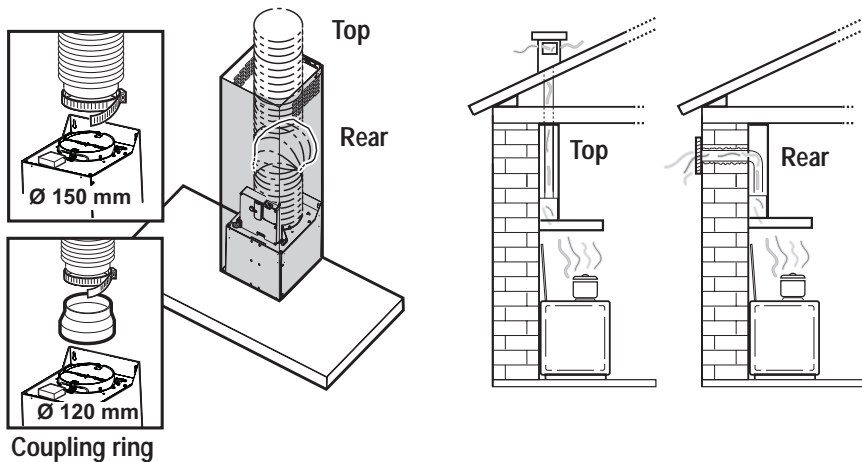

Fig. 1
- In this mode fumes are extracted to the outside via a **hose** connected to the **coupling ring**. **Fig. 1**